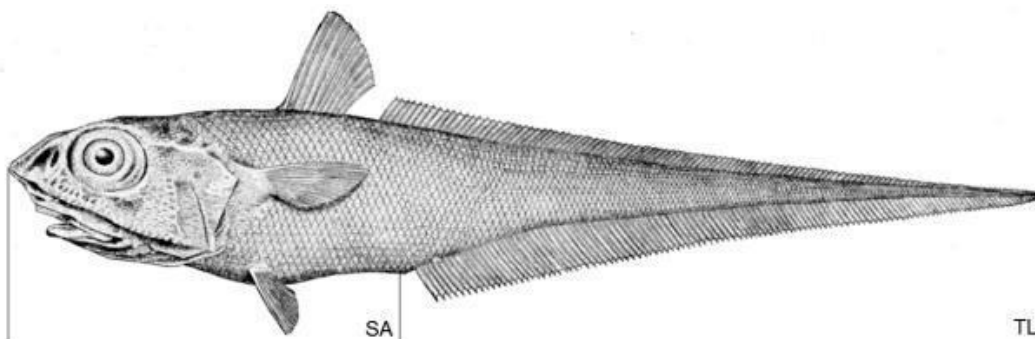

Figure 2: Measurement of *Macrourus spp.*
For *Macrourus spp.* total length and snout to anus (SA) length should also be measured from the tip of the snout to the anus (Figure 2).